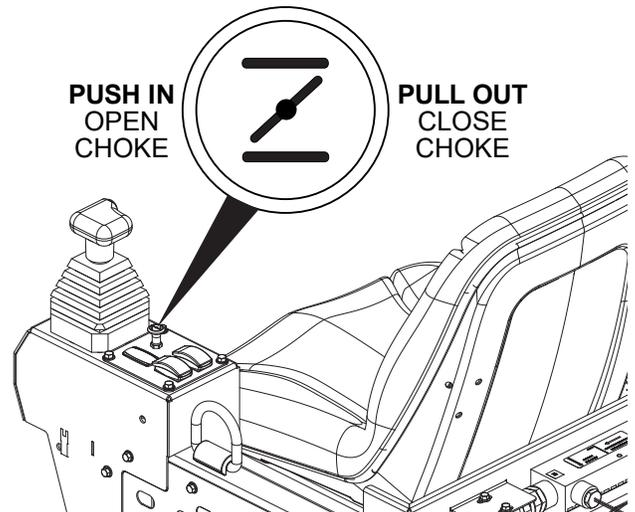

Figure 19. Choke Knob
2. If starting a cold engine, or starting the engine in cold weather, pull the choke knob (Figure 19) **outward** to the **CLOSED** position.
5. Let the engine idle for 2–3 minutes. Once the engine has warmed, push the choke knob (Figure 19) **inward** to the **OPEN** position.